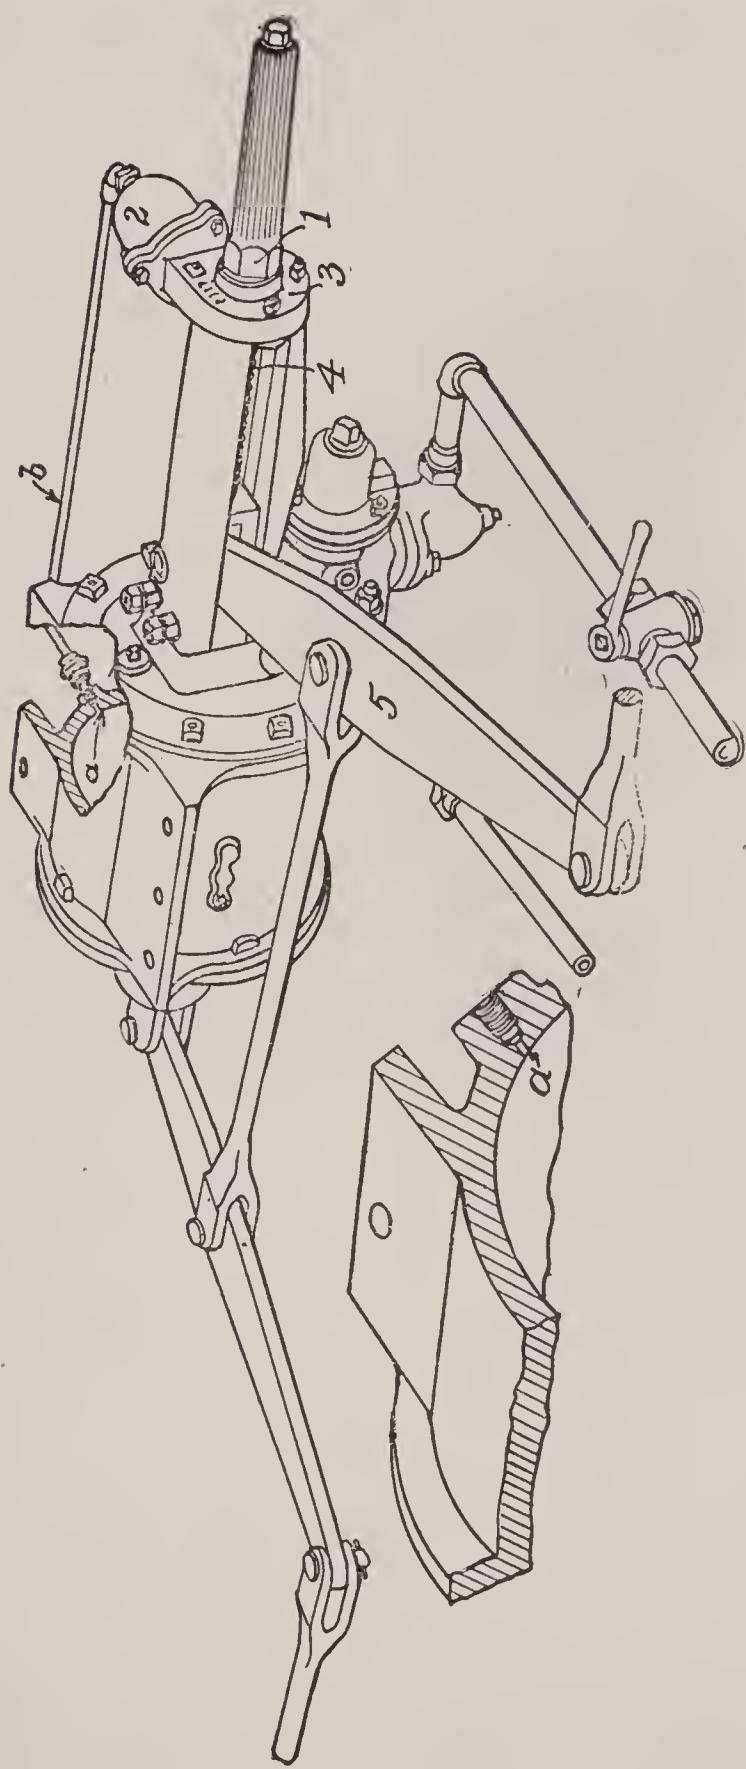

Fig. 15.
**Operation.** The slack adjuster is shown in Figs. 15, 16 and 17. The brake cylinder piston acts as a valve to control the admission and release of brake cylinder pressure to and from pipe *b* (Fig. 15, through port *a* in the cylinder. Port *a* is so located that when the piston uncovers port *a*, brake cylinder air flows through pipe *b* into slack adjuster cylinder 2, where the small piston 19 (Fig. 16) is forced outward, compressing spring 21. Attached to piston stem 23 is a pawl extending into casing 24, which engages ratchet wheel 27, mounted within casing 24, upon screw 4 (Fig. 15). When the brake is released and the brake cylinder piston returns to its normal position the air pressure in cylinder 2 escapes to the atmosphere through pipe *b*, port *a* and the non-pressure head of the brake cylinder, thus permitting spring 21 (Fig. 16) to force the small piston to its normal position.